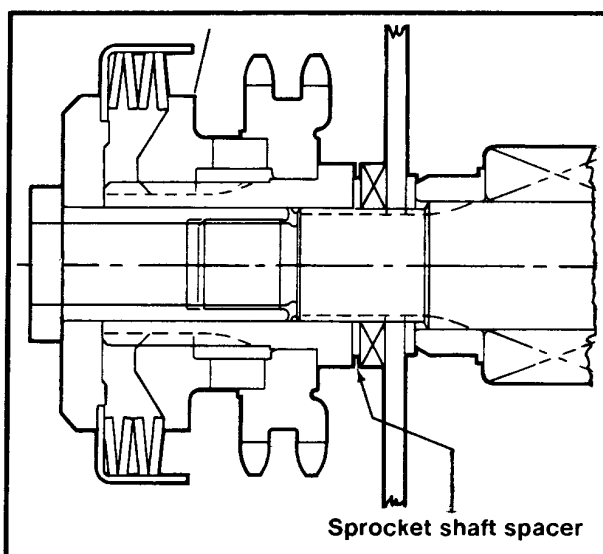
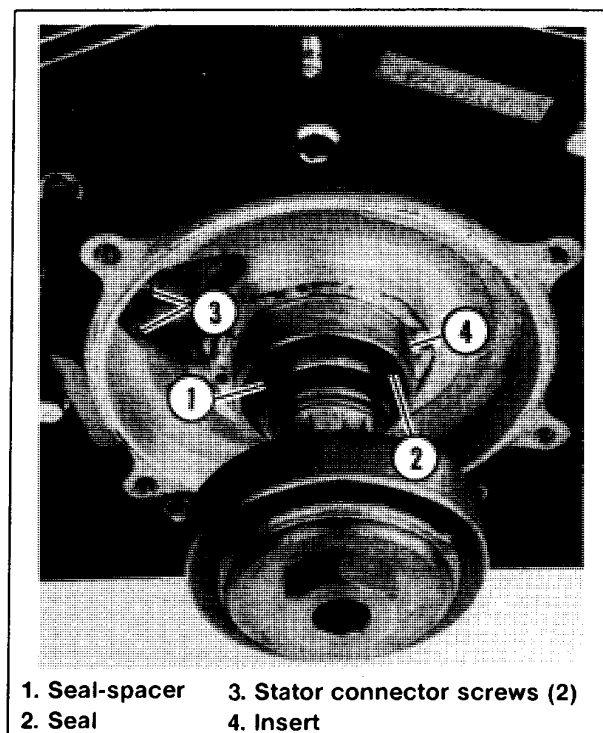

Figure 1. Location Of The Factory Installed Spacer
Figure 4. Area To Checked For Leaks
3. Remove the alternator rotor and stator. **Install stator connector screws (item 3, Figure 4). The stator connector screw holes are "through holes" and would allow pressure to escape during testing.** See Figure 1. Mark or measure and record the factory installed sprocket spacer(s) thickness. The spacer(s) must be installed in their original location to align the primary chain sprockets after the testing is completed.
11. See Figure 4. With the propane torch, heat the stator mounting surface for three minutes. (This will simulate engine operating temperature.)
Test Locations (See Figure 4)	Remedy
1. Seal-spacer (1). Check for leaks at inside diameter (ID) and outside (OD) of seal-spacer.	<p>1.1 If seal-spacer (1) leaks at its ID, remove seal (2) and seal-spacer and check condition of spacer at bearing end. If grooved, install new seal-spacer and new seal. Coat OD of new seal with a very thin application of 3M® 800 and install.</p> <p>CAUTION Do not apply 3M® 800 sealant to crankcase or use an excessive amount of 3M® 800 sealant on O.D. of seal. Sealant could be forced into bearing and cause bearing failure. Recheck for leaks.</p> <p>1.2 If leak is at OD of seal-spacer, remove seal (2), Figure 4 and check finish of spacer where lip of seal makes contact. Replace spacer if OD is rough or grooved at seal mating surface. Install new seal (2) after applying sealant as specified in 1.1 above.</p>
2. ID and OD of seal (2),	<p>2.1 If seal (2) leaks at its ID, remove seal and check spacer finish as covered in 1.2 above. Install new seal (2) after applying sealant as specified in 1.1 above and a new seal-spacer if necessary.</p> <p>2.2 If seal leaks at its OD, remove seal and discard. Install new seal (2) after applying sealant as specified in 1.1 above.</p>
3. Stator connector screws (3),	3.1 Seal leaks at fasteners by applying Loctite® 242 (blue) to the threads after stator has been installed.
4. Cast-in insert (4). Check carefully for leaks at the OD of the insert. NOTE Late 1990 and later crankcases do not contain insert.	4. If leaks are present at the mating surface between steel insert and crankcase contact the Harley-Davidson Service Department. If crankcase must be replaced, tighten crankcase and cylinder/cylinder head fasteners following instructions on next page.